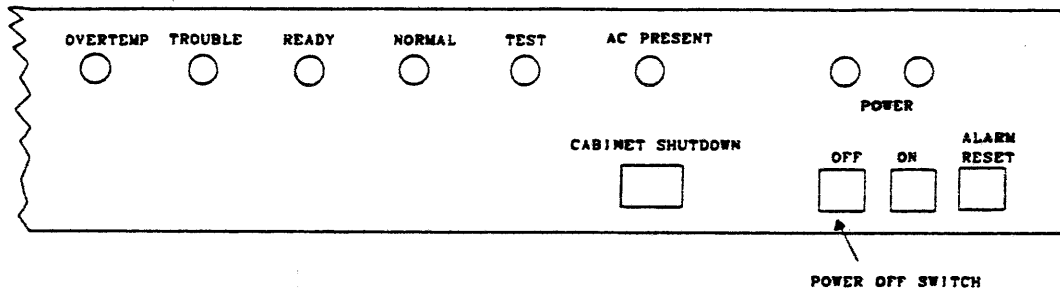

FIGURE 4-14. OPERATOR CONTROL PANEL (POWER OFF SWITCH)
1. Depress and release the POWER-OFF switch located on the Operator Control Panel. See Figure 4-14.